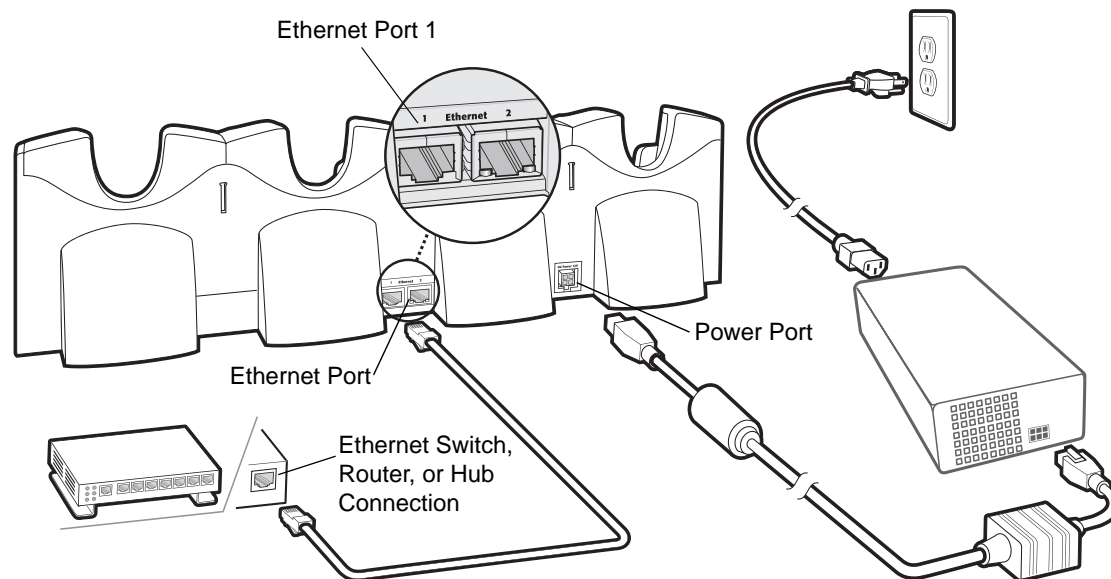

Figure 2-4 Four Slot Ethernet Cradle Connection
2. Connect an Ethernet cable to Port 1 of the first cradle as shown in Figure 2-4.
5. Connect power (see Figure 2-4 on page 2-6). The power supply should be located in the power supply well.